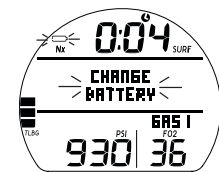

Fig. 4 - LOW BATTERY (after surfacing)
- Upon surfacing, the Battery icon (shell only) and graphic CHANGE BATTERY flash for 10 minutes (Fig. 4), then the unit shuts Off completely.